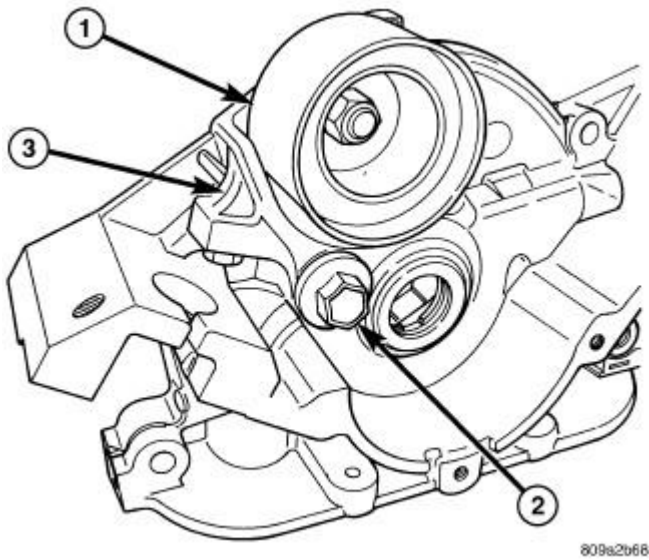

Fig. 528: Tensioner Pulley, Pivot Bolt & Tensioner Bracket
1. Install the timing belt tensioner pulley (1) assembly. Refer to **Fig. 528**. Tighten the pivot bolt (2) to 61 N.m (45 ft. lbs.).